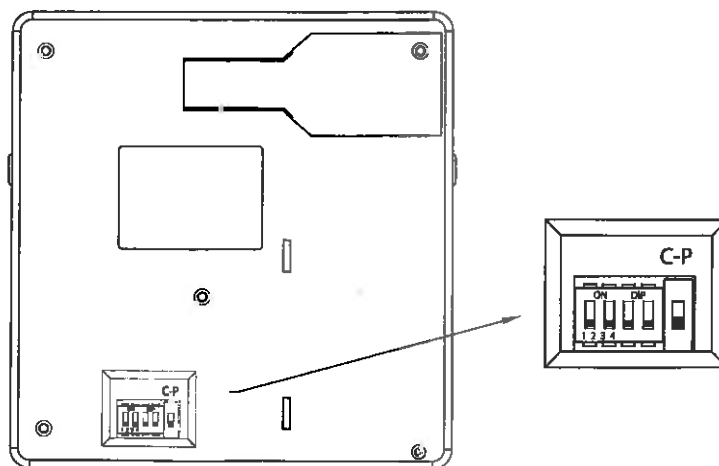

Figure 10
- 2 Slide the CHILD-PROOF switch to position marked C/P to activate the CHILD-PROOF function "C/P" will appear on the LCD. See figure 10.
You can set a private code into your system to prevent accidental operation by another transmitter nearby. See Figure 10.